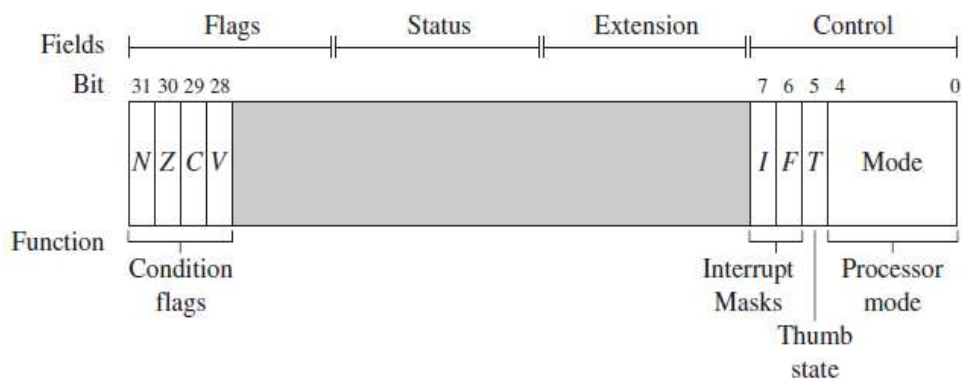

Figure 2.3 A generic program status register (*psr*).
- The *CPSR* is a dedicated 32-bit register and resides in the register file. Figure 2.3 shows the basic layout of a generic program status register. Note that the shaded parts are reserved for future expansion.